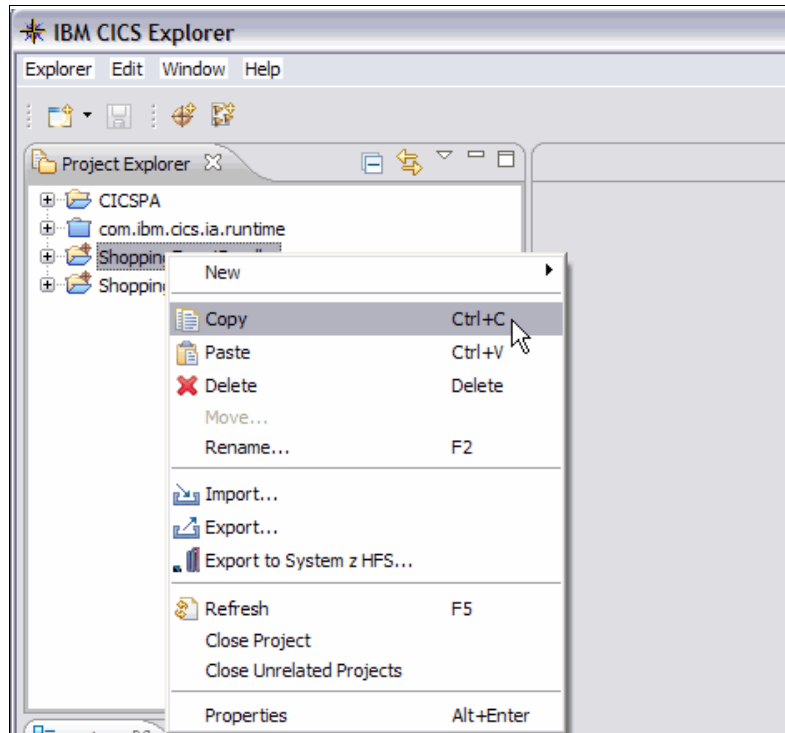

Figure 5-57 Copy ShoppingEventBundle project
1. Open IBM CICS Explorer Resource perspective. In the Project Explorer window, right-click the **ShoppingEventBundle** and click **Copy** (Figure 5-57).